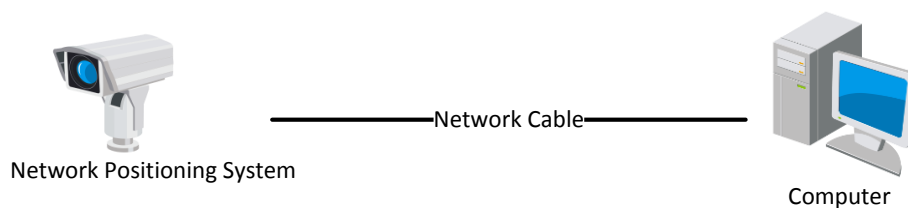

Figure 2-1 Connecting Directly
- To test the Explosion-Proof PTZ Camera, you can directly connect the Explosion-Proof PTZ Camera to the computer with a network cable as shown in Figure 2-1.